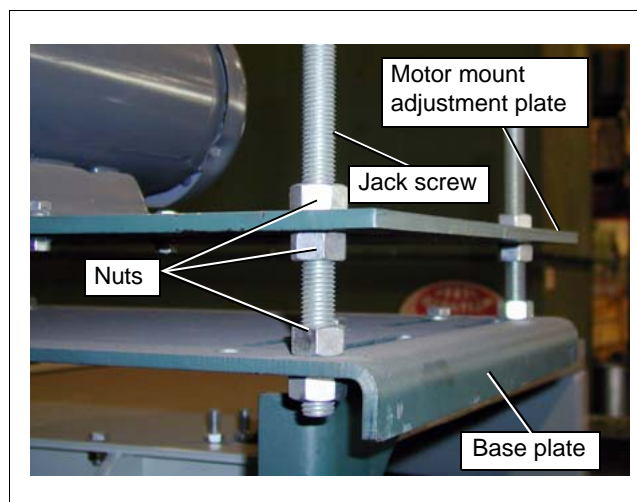

Figure 6Q
- Thread nuts onto jack screws. *(See Figure 6Q.)* Place bolt through motor mount bracket and base plate. Thread another nut onto jack screws to secure. Repeat for three (3) remaining jack screws.
- Thread another nut onto all four (4) jack screws. Place adjustment plate onto jack screws. Thread another nut onto each jack screw to secure adjustment plate. Use these nuts to adjust the motor height.